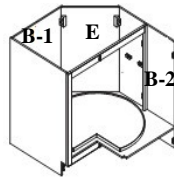

Figure 6
6. Place the back panel align the cam lock connectors with side panels. Make sure that it fits and is locked (Figure 6).